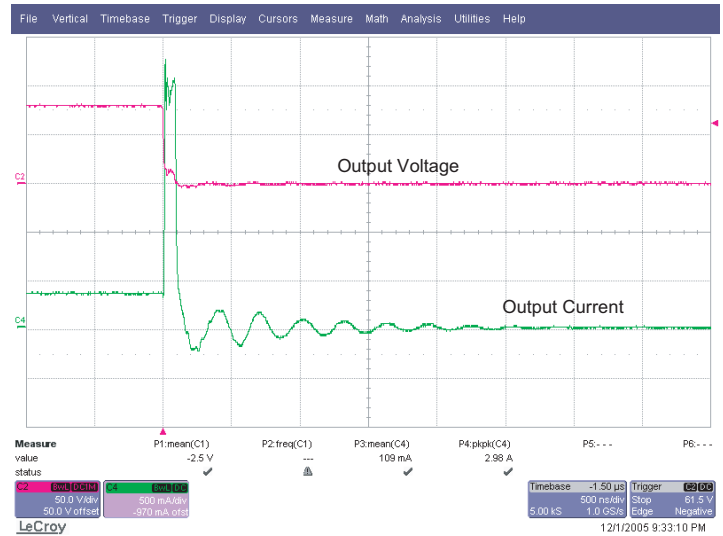

Fig. 7: Output Short Circuit Protection (500ns/div)
5. Output Short Circuit Protection: Fig. 7 shows the waveforms for output short circuit condition. The disconnect FET is turned off in less than 300ns. The rise in the output current will depend on the input voltage and the value of inductor L1. The same protection will also help in protecting the LEDs in case the output voltage increases beyond the LED string voltage.